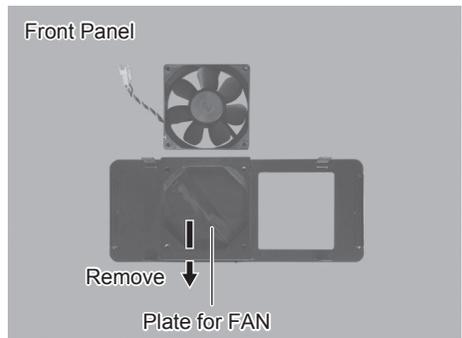

Fig. 45
- (7) Remove the FAN from the Case (Front Panel) of the CONTROLLER (Fig. 45).
- (8) Remove the Plate for FAN from the Case (Front Panel). Clean the Case (Front panel) and Plate with a lint-free cloth (Fig. 45).